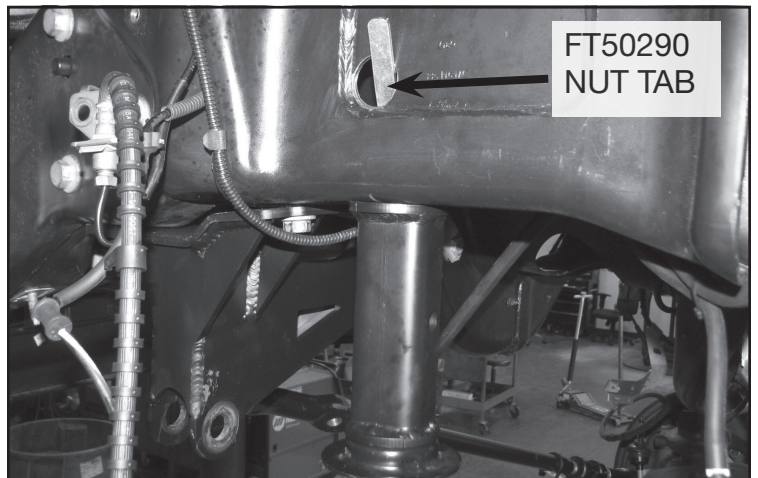

FIGURE 10 - STEP 16
16. Using FT50290 (Nut Tab) and 1/2 X 1-1/2" bolt and washer. Mount the new bump stop extension to the frame. Route the Nut tab through the 1-1/4" hole that was made in Step 14. Torque to 127 ft-lbs. **SEE FIGURE 10**